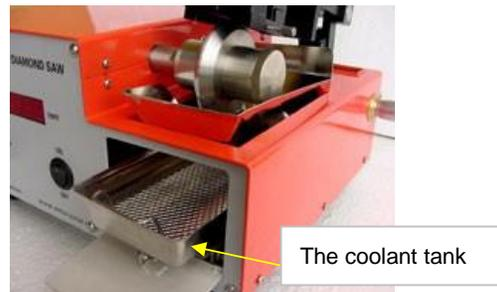

Figure 5
- 5.3.8 Place lubricant (diluted to 30 part water with 1 part lubricant by volume) into coolant tank (Fig.5) until the lubricant covers approximately 10~15 mm (1/2") of the diamond wheel